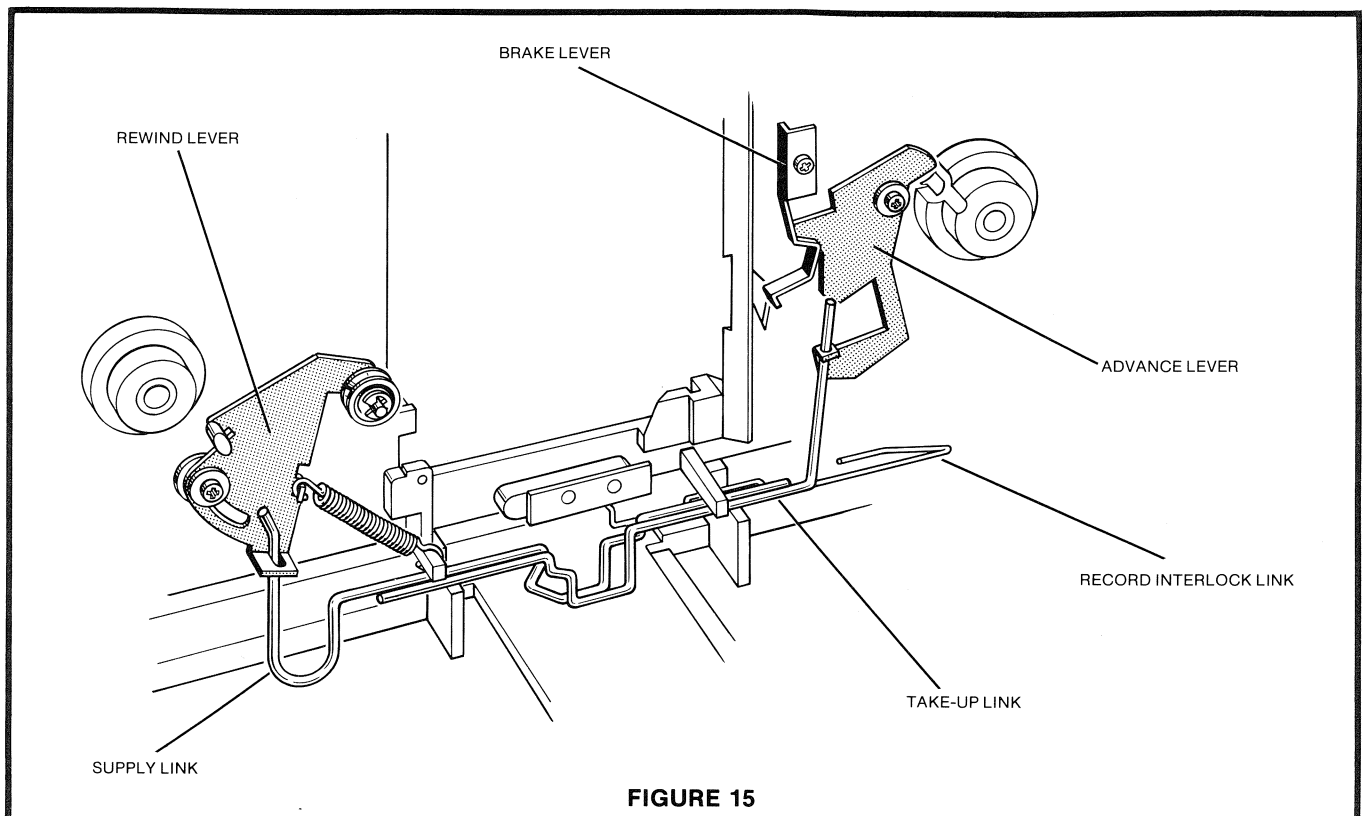

FIGURE 15
4. Remove ADVANCE LEVER, REWIND LEVER, and BRAKE LEVER, Figure 15.
6. Remove TAKE-UP LINK and SUPPLY LINK, Figure 15. Leave RECORD INTERLOCK LINK on EKTASOUND 245 Movie Projector in place.
8. Push **RECORD INTERLOCK LINK**, Figure 15, away from sound board and remove sound board from case.
1. Slide link into place behind control plate as shown, Figure 15.